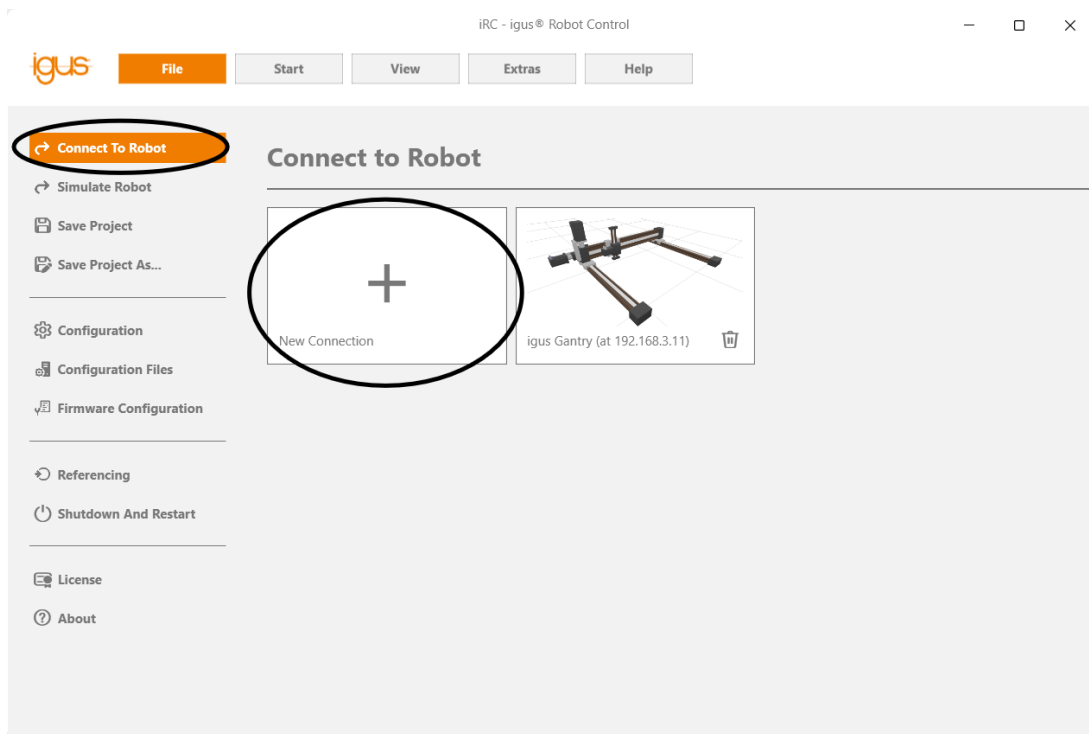

Figure 4: Connect to robot
2. Start the iRC software. At startup, you can either simulate a robot of your choice or connect to your robot. Press "Auto Connect", if your robot is in its original state or choose a custom IP-address, if it has been changed on the robot (see Fig. 4).